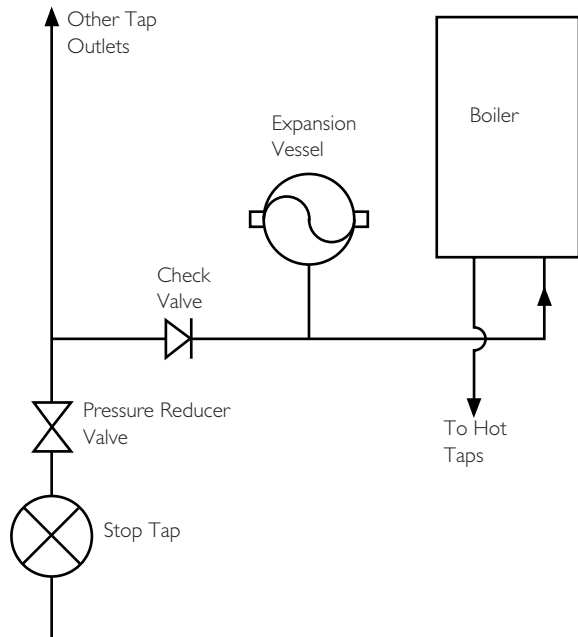

Fig. 7
### 6.8 Domestic Hot Water Circuit (Fig. 7)
3. A single check valve must be fitted as shown in Fig. 7 to prevent backflow to the supply pipe and to ensure the efficient operation of the expansion vessel which is required to accommodate the thermal expansion of the water.